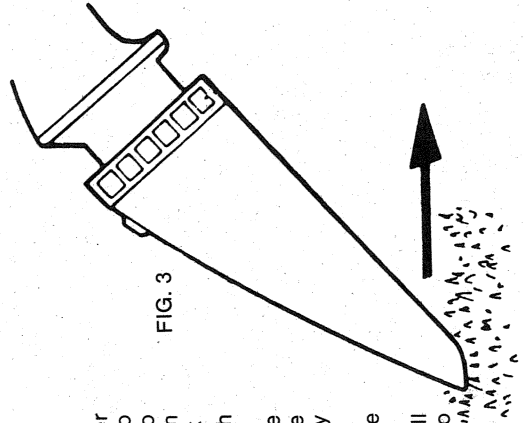

FIG. 3
3. When cleaning high-loop, pile rugs, pull nozzle in the direction shown in Figure 3 to avoid snagging the nozzle in the pile.